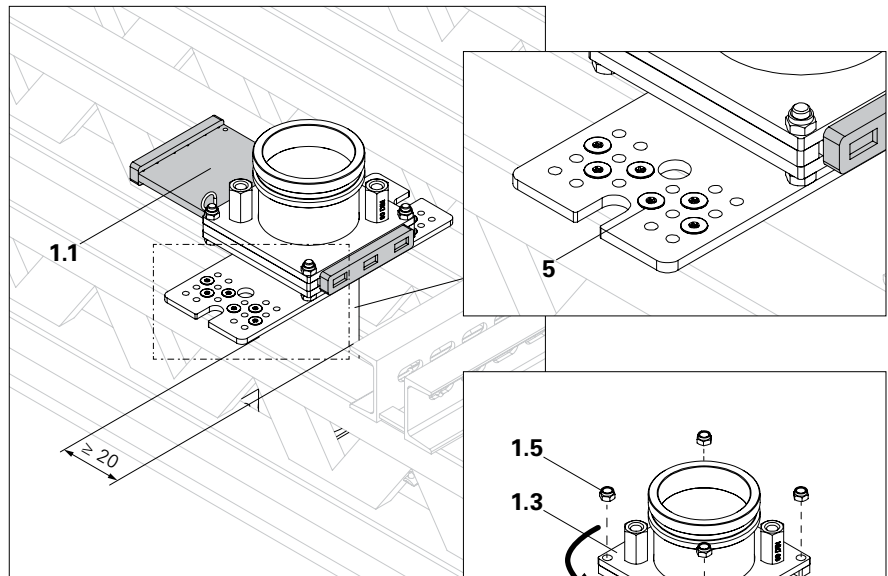

Fig. B.02
1. Securely fix the Concrete Pump Connector with 12x TORX TSS 6 x 60 (5). Maintain bolt arrangement in accordance with Fig. B.02.